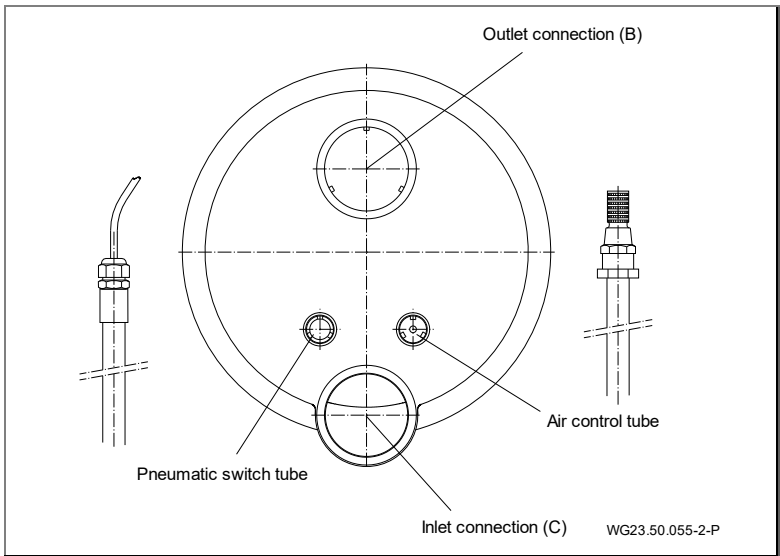

Fig. 15
1. Glue in the cable protection hose and the hose for air supply. See "Fig. 15" on page 29
2. Position the nozzle housing (102.1) on the main housing (1).
3. Lead the pneumatic hose through the protective conduit and seal it with the cable gland (20).
4. Attach the air pipe to the air regulator (21), assembled on site, with a clamp (8).
5. Attach the nozzle housing (102.1) to the main housing (1) with 4 tapping screws (61).
6. Connect the jet pump (92) to the main housing (1) on the suction and pressure sides using the half screw (98, 99, 100), the rubber bracket (79) and the corresponding clamps (75).